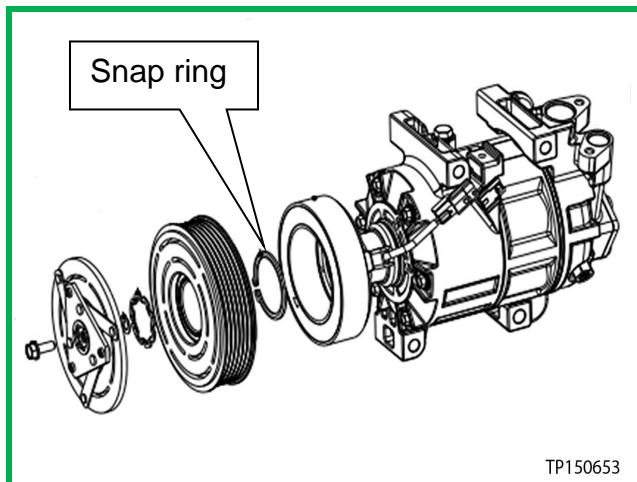

Figure 4
- The magnet coil for the applied vehicles is retained by a single snap ring as shown in Figure 4.